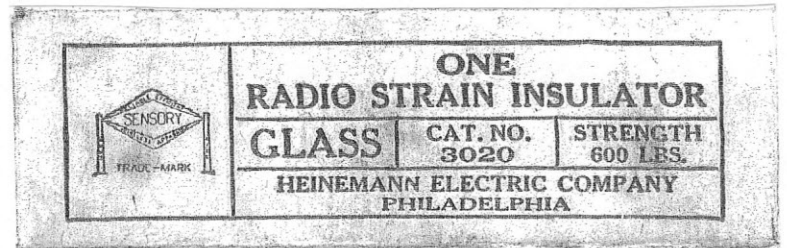

Figure 2: strain insulator box
- Figure 2: Sensory insulator box